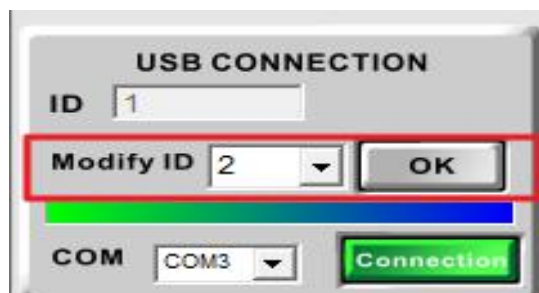

Figure 8
Step 2: Modify the ID value and click OK, as shown in Figure 8 below.